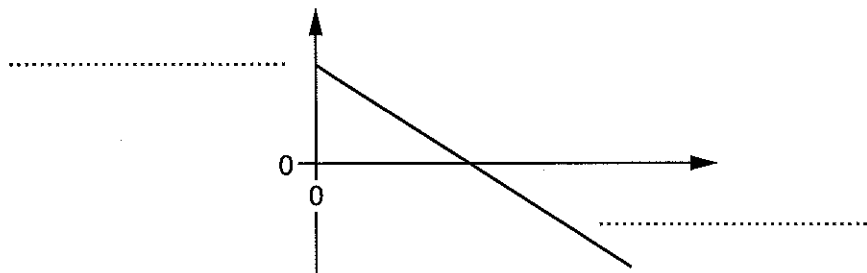

Fig. 1.2
- (a) The area under the graph shown in Fig. 1.2 is equal to the displacement of a ball.